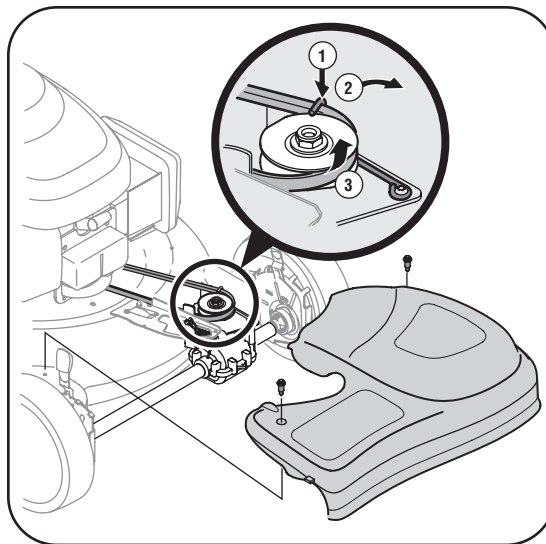

Figure 5-4
1. Remove two shoulder screws securing front drive cover to mower deck. See Figure 5-4. Press inward on sides of front drive cover and release tabs that secure it to the height adjuster brackets. Remove drive cover from mower.
2. Pull up on the belt keeper wire and pivot it out away from the drive pulley. See Figure 5-4 inset.